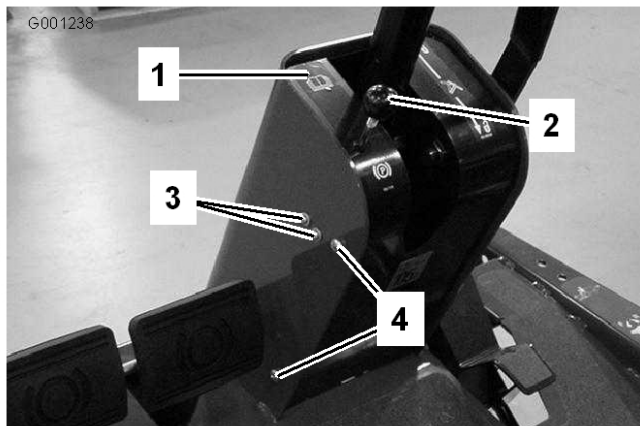

Figure 56
2. Remove the knob from parking brake rod and screws from the steering tower cover (Figure 56).
4. Loosen the screws and nuts securing the parking brake switch to the left side of the steering tower (Figure 56).